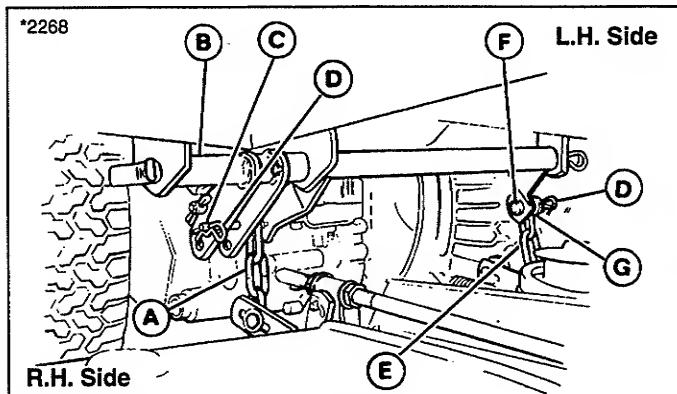

Figure 8. Mower With Electric Lift
Electric Lift. See figure 8. Connect the mower lift chains (A & E) to the the tractor lift arm (B) using the clevis pins, washers and safety clips. Install the shorter clevis pin (F, figure 8) on the left side as shown.